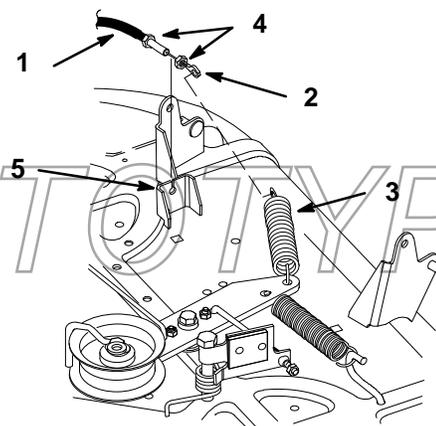

Figure 39
6. Unhook the blade control (PTO) cable ring end from the idler spring (Fig. 39).
7. Remove rubber wiper and jam nut from blade control (PTO) cable at mounting bracket. Slide the cable from the bracket (Fig. 39).